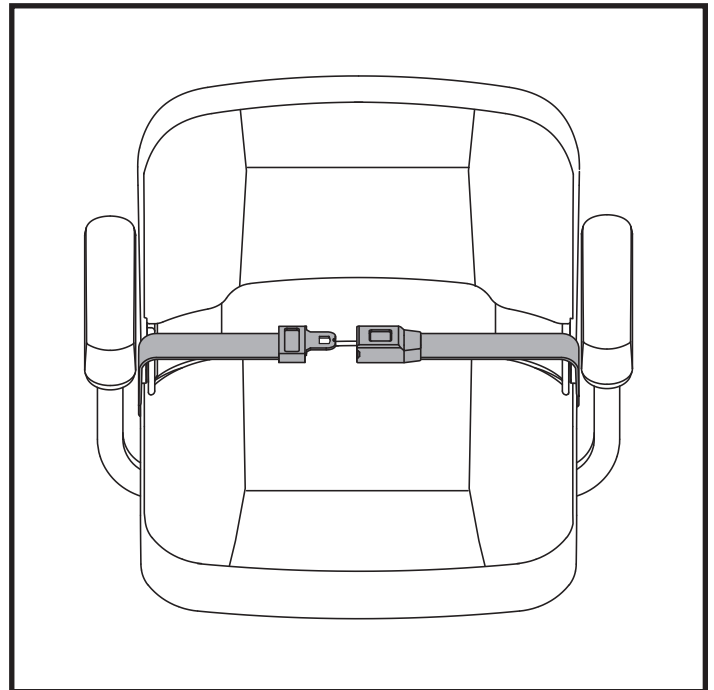

Figure 17. Positioning Belt - Metal Tab Style
1. Insert the metal tab on the right side of the belt into the plastic housing on the opposite strap until you hear a “click.” **See figure 17.**